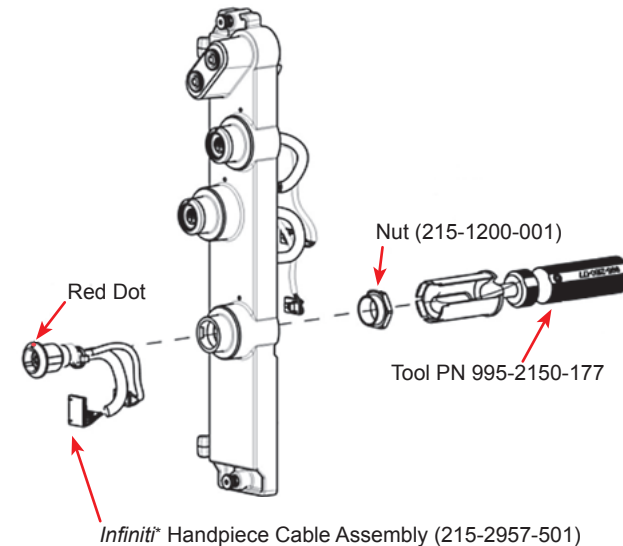

Figure 3-84 *Infiniti Handpiece Cable Assembly Removal**
- 62.3 On the connector panel, remove nut securing *Infiniti* U/S Handpiece Cable Assembly (215-2957-001) using tool PN 995-2150-177 (see Figure 3-84). NOTE: Tool PN 995-2100-106 used on *Infiniti** systems also works for this connector.
- 62.6 Install the new *Infiniti** U/S Handpiece Cable Assembly into the connector panel and ensure the red dot of the cable is facing up as shown in Figure 3-84.